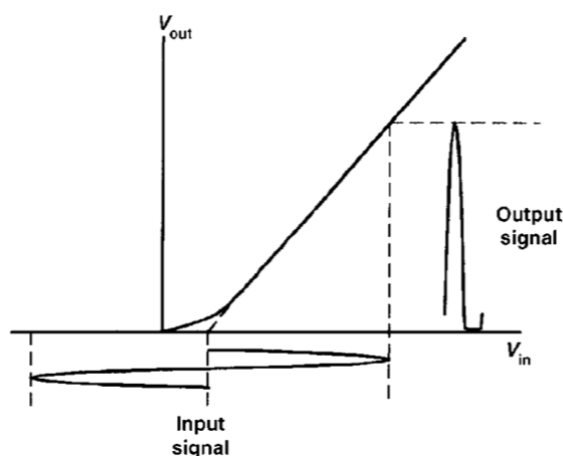

Figure 1.23 Class AB operation (bias set at projected cut-off)
- Now consider the case of reducing the bias even further while further increasing the amplitude of the input signal as shown in Fig. 1.23.